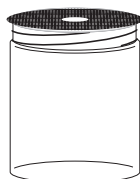

Figure 4: Cut a small hole out of the screen.
Step 9 (Optional) With an exacto-knife, cut a small hole in the screen of either jar that you assembled in Steps 6 and 8. (See Figure 4.) Try the experiment with this “larger gauge” screen that you have created. Does it hold the water back?